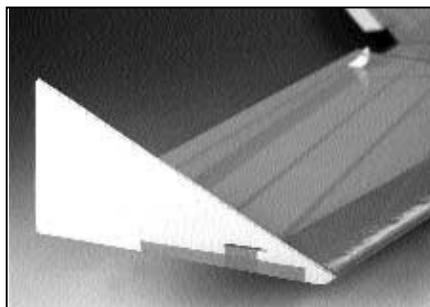

fig.12
- ❑ 2. Cut a 30mm slot in the fin (see fig. 12). Tack glue the fin in place.